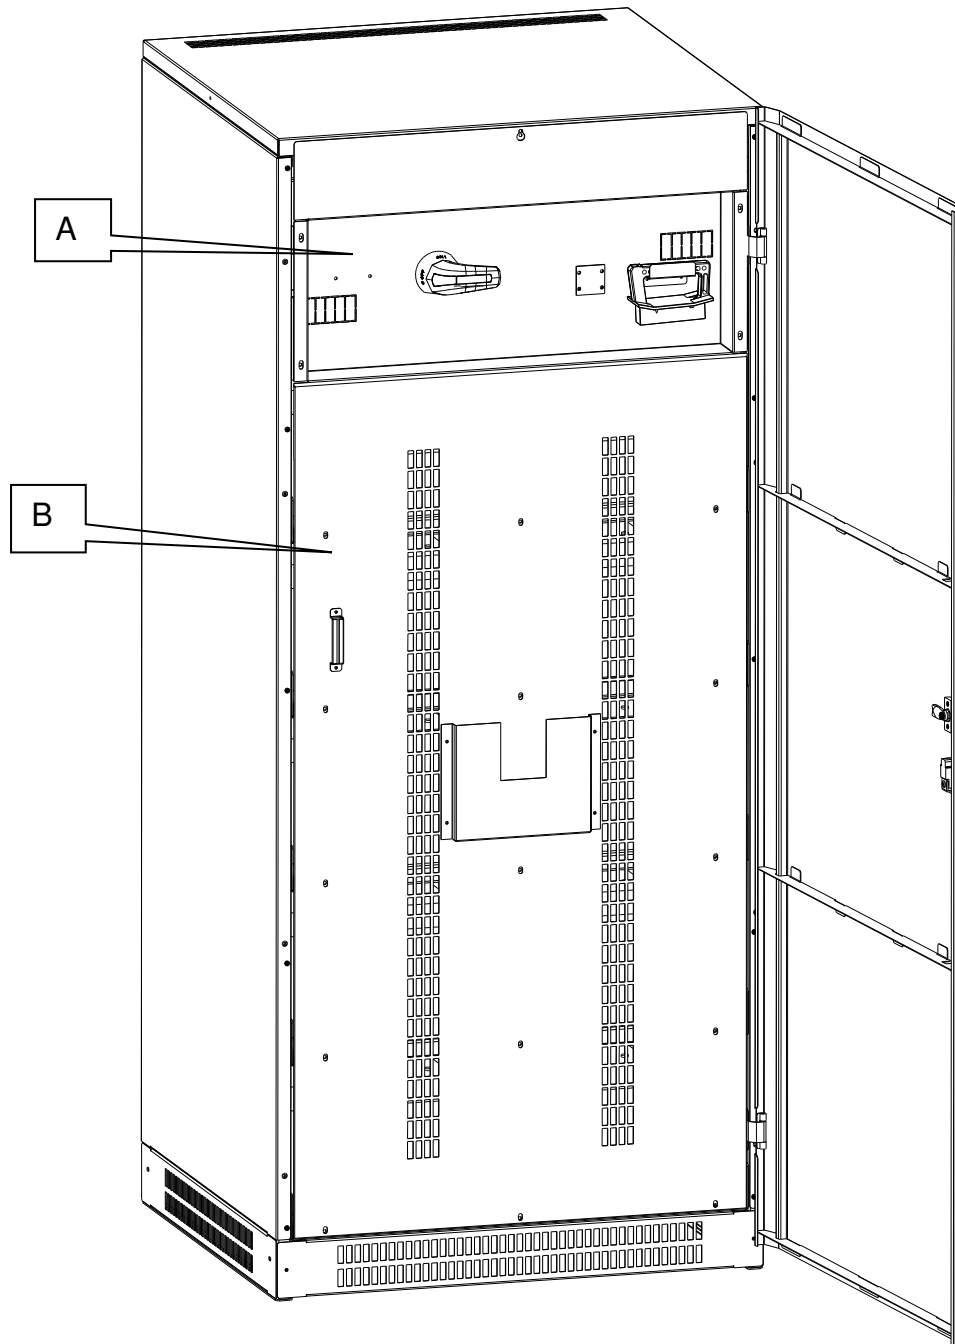

Fig.1
- Remove the two internal "A" and "B" panels, see Fig.1.
- *Reposition previously removed internal panels A and B, see Fig.1.*